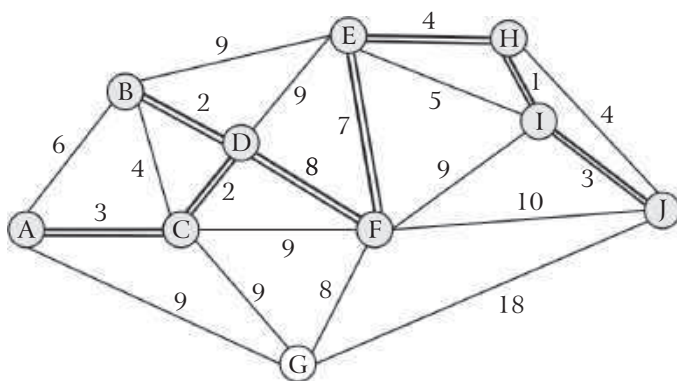

Fig. 8.14
Step 8: The node $\textcircled{J}$ of the set $\bar{C}$ is nearest to the node $\textcircled{I}$ of the set C . So we choose this node $\textcircled{J}$ and transfer it from the set $\bar{C}$ to the set C and choose the branch joining these two nodes $\textcircled{I}$ and $\textcircled{J}$ for M.S.T.. These are shown in fig. 8.14.